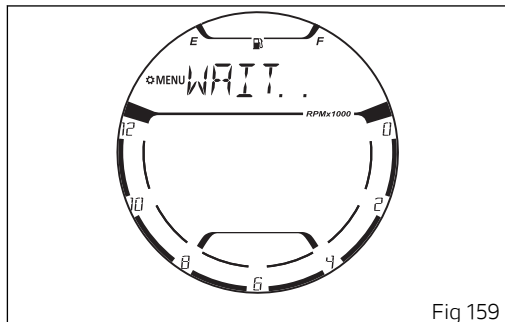

Fig 159
To confirm deletion press button (4). The display shows "WAIT..." (Fig 159) and then goes back to the Bluetooth function with the number and list of updated devices.